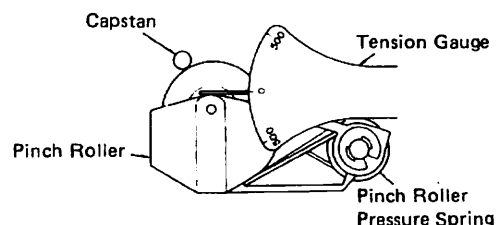

Figure 19-1
2. Push the pinch roller, at the point shown in Fig. 19-1, by using a tension gauge (500 gr.) so that it will come off the capstan. Then, release the tension slowly until the pinch roller hits the capstan again (i.e., the pinch roller is about to rotate again). Then check the tension gauge is reading 295 gr. to 365 gr.